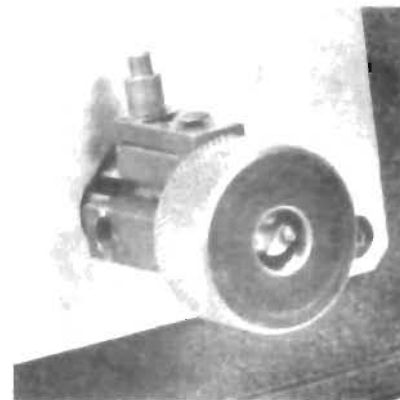

Fig. 20
4. Place calibrator ring on points (Fig. 20) and while holding ring lightly against stop pads on points, expand the gaging fingers by turning adjusting knob counter-clockwise until dial indicator hand reaches approximately the 3 o'clock position.